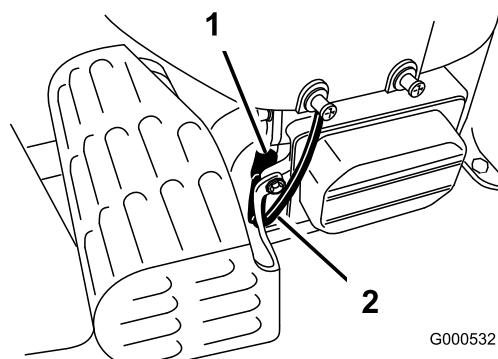

Figure 28
2. Pull the wire off of the spark plug (Figure 28). Clean around the spark plug to prevent dirt from falling into the engine and potentially causing damage.
- Push the wire onto the spark plug (Figure 28).